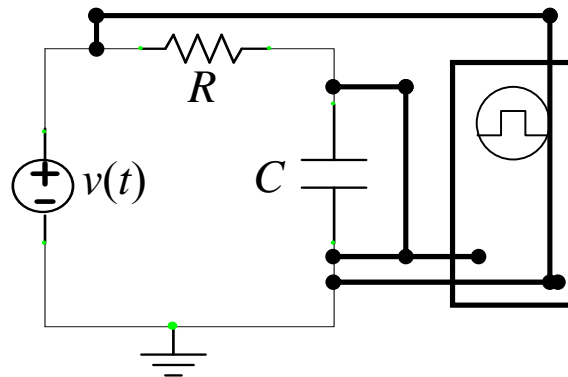

Figure 2. Circuit B measurement for frequency response model.
10. Assume that data was automatically collected from a first-order low-pass filter (as shown in Fig. 2 at several frequency points list below in Table 1.